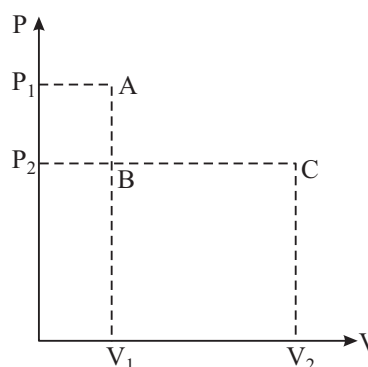

Fig. 11.3
2. Fig. 11.3 is an indicator diagram of a thermodynamic process. Calculate the work done by the system in the process :